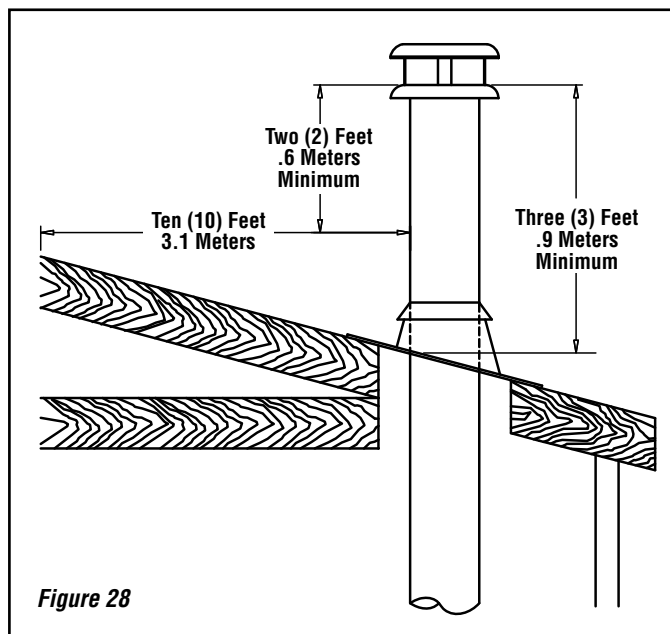

Figure 28
6. The chimney must extend at least 3 feet (915 mm) above its point of contact with the roof and at least 2 feet (610 mm) higher than any wall, roof or building within 10 feet (3m) of it (**Figure 28**).